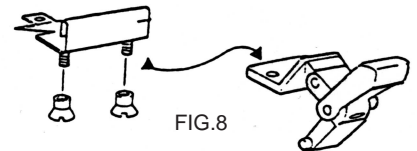

FIG.8
- Op.13 Screw the rear latches onto the mounting plate. FIG.8.